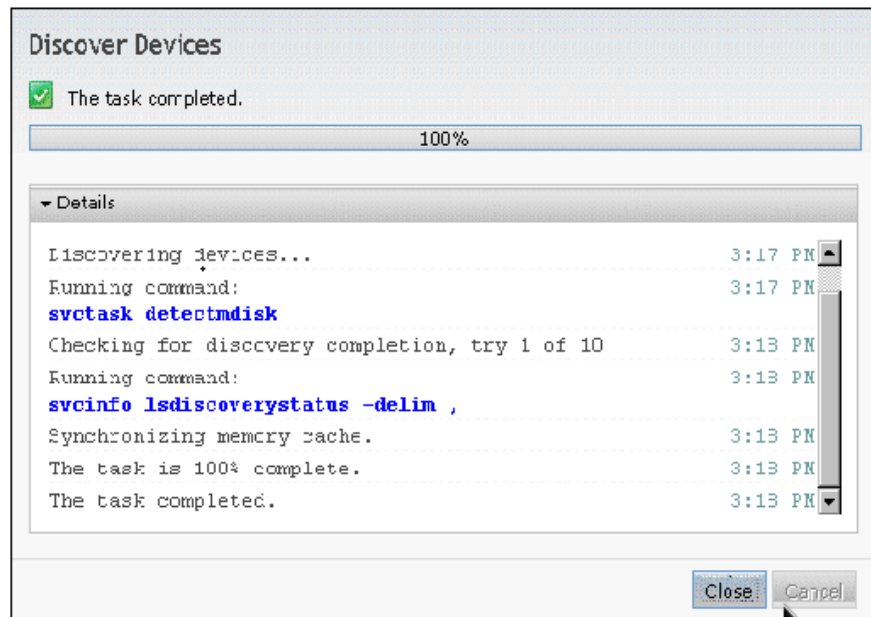

Figure 2-21 Discovering devices
- When the Discover Devices task completes, click **Close**, as shown in Figure 2-21.